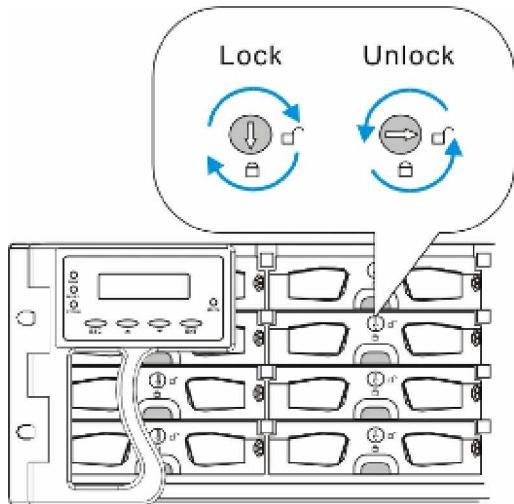

Figure 2-9: Drive Tray Key-lock Rotation
Step 5. *Lock the flap into place* by turning the key-lock until the groove on its face is pointing down (vertical orientation). (See *Figure 2-9*)